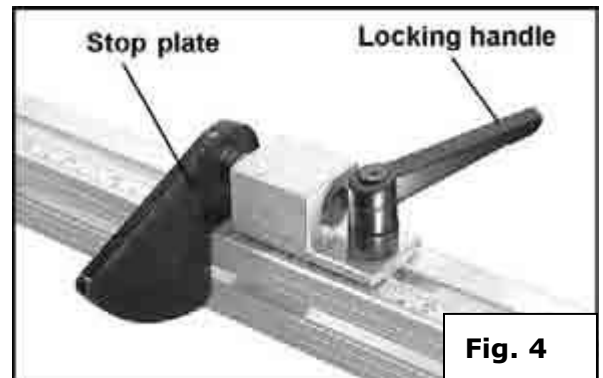

Fig. 4
- Mount a fence stop from the end of the fence by sliding the bolt head at the bottom of the stop into the top channel of the fence, as shown in Fig. 4.